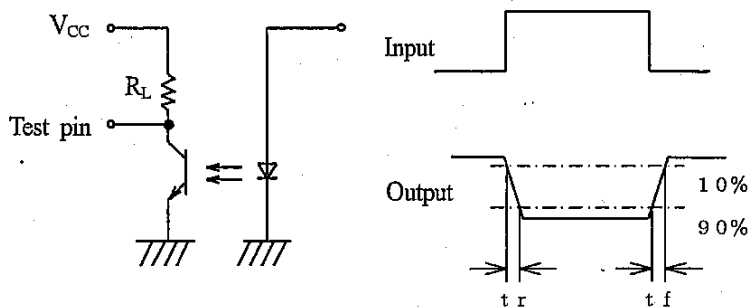

Fig.1 Forward current vs. ambient temperature
*1 The derating factors of absolute maximum ratings due to ambient temperature are shown in Fig. 1, 2, 3.
- Put 100 devices into antistatic electricity bag, and seal. (Fig.1)